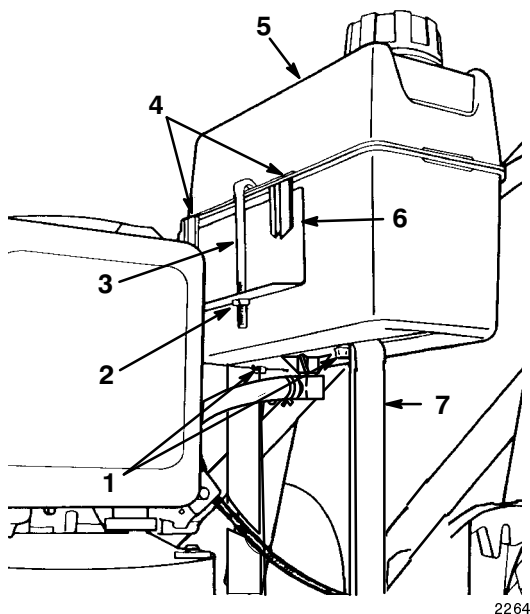

Figure 4
1. Start the two self-tapping screws into the bottom of the fuel tank and then remove the screws (Fig. 4).
2. Hook the plastic clips on the front of the fuel tank onto the fuel tank bracket (Fig. 4).
3. Secure the fuel tank to the tank base with the two self-tapping screws (Fig. 4). *Do not overtighten the screws.*
4. Hook the fuel tank retainer onto the rear of the fuel tank, and slide the end of the retainer into the hole in the fuel tank bracket (Fig. 4).
5. Secure the retainer to the tank bracket with a locknut (Fig. 4). *Do not overtighten the locknut.*